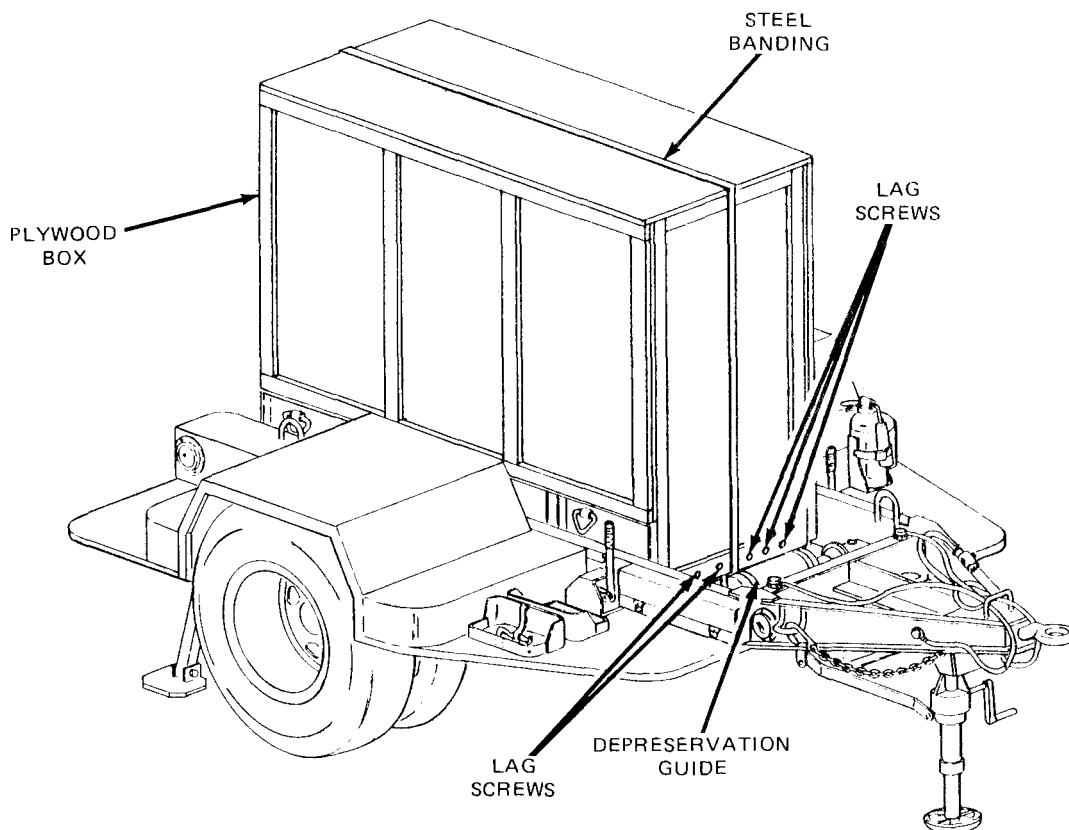

Figure 4-1. Power Unit Packed for Shipment.
*a. Unpacking Power Unit.* (See figures 4-1 and 4-2.) The generator set is packed in place on the trailer frame. Before beginning the unpacking procedure, locate, remove, and save the waterproof envelopes marked Depreservation Guide.